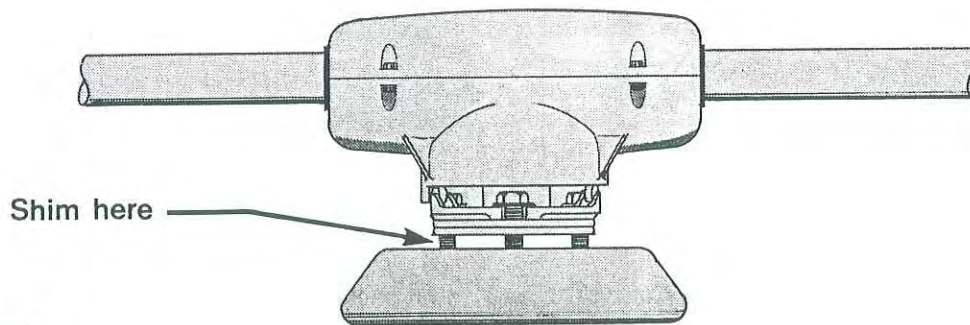

Figure 14
10. Also, even though the center insulator is rotating true, the watermelon could be misaligned, causing one blade tip to be high, the other low, beyond the range of jack screw adjustment. To correct this, do not disturb the rotating insulator adjustment, but rather simply place shims between the rotating insulator cap and the watermelon mounting plate (figure 14).